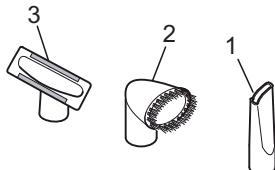

Fig.5
- **Crevice nozzle (Fig. 5/1)**
- **Furniture brush (Fig. 5/2)**
- **Upholstery nozzle (Fig. 5/3)**